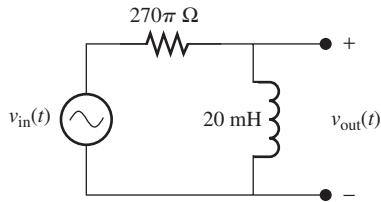

FIGURE P7.23 Filter for Problem 7.23.
- 7.23** (B) Find the break frequency and transfer function for the filter of Figure P7.23.